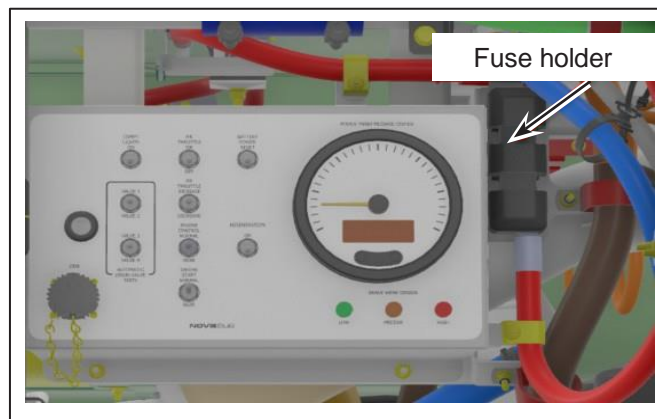

Figure 1 - Typical Location of the Fuse Holder N84769
- 1.7. Locate the 250A fuse holder N84769 for the radiator fan power supply. See Figure 1.
- 1.8. Remove the cover from the fuse holder. Retain the cover. See Figure 1.